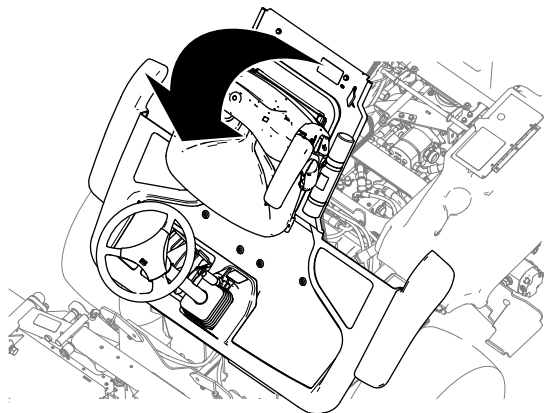

Figure 52
2. Raise the platform (Figure 52).